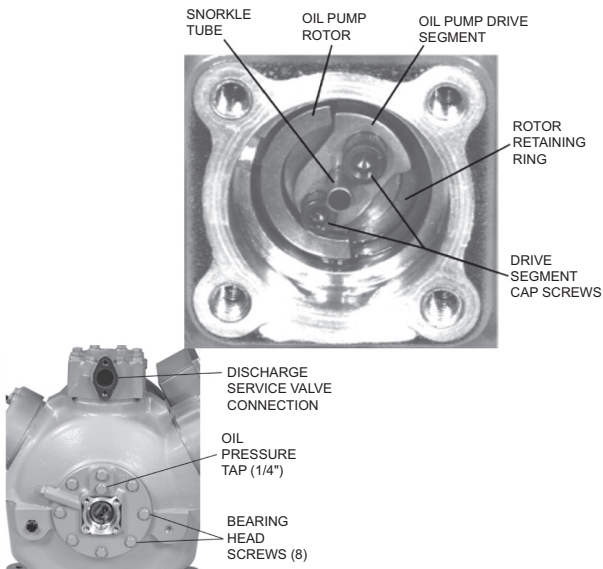
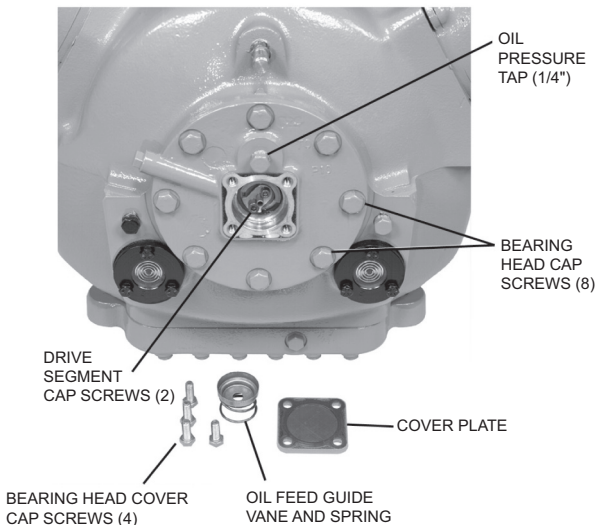

Fig. 9 — Removing Pump End Bearing Head (06D Compressor)
Fig. 10 — Removing Pump End Bearing Head (06E Compressor)
1. To disassemble, first remove four (4) cap screws from the bearing head cover plate and remove the oil feed guide vane and spring.
Remove the two (2) drive segment cap screws from the end of the crankshaft (see Fig. 9 and Fig. 10).
IMPORTANT: The 1/4 in. snorkel tube should face away from the crankshaft (Fig. 9).